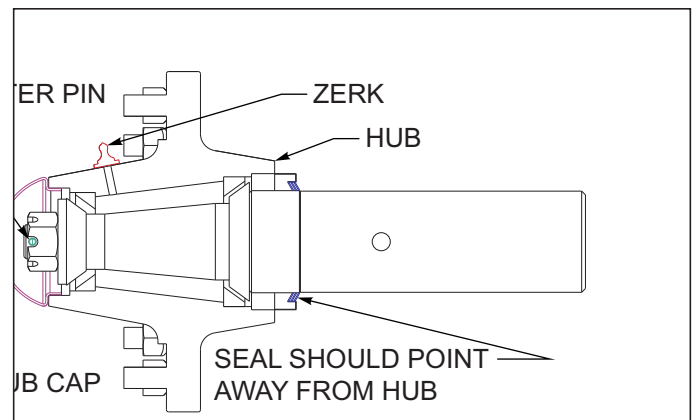

Figure 5-1: Triple Lip-Seal
The triple-lip seals should point away from the hub to keep contaminants out and allow grease to pass See **Figure 5-1**.
1. Install a new cotter pin and replace the hub cap. See **Figure 5-1**.